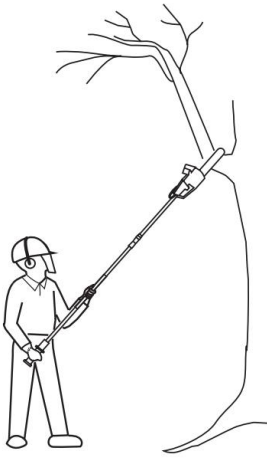

Fig. 49
1. Always hold the product firmly with both hands on the handles (A27, A31). Never operate this product using only one hand (Fig. 49).